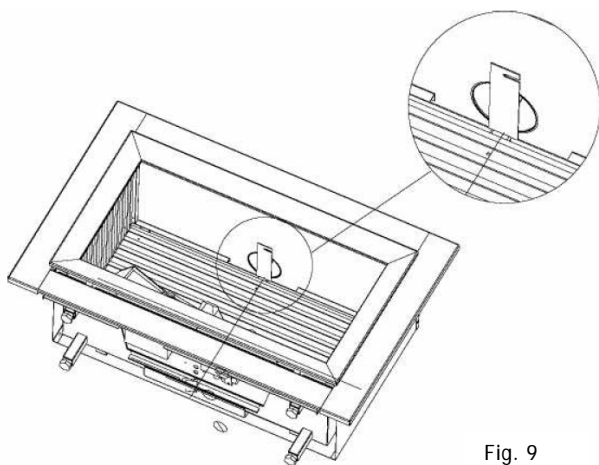

Fig. 9
- 4) Like in the previous models, place the right flue restrictor in the combustion chamber (see fig. 9). To determine the right flue restrictor, see paragraph 4.2 and 4.3.